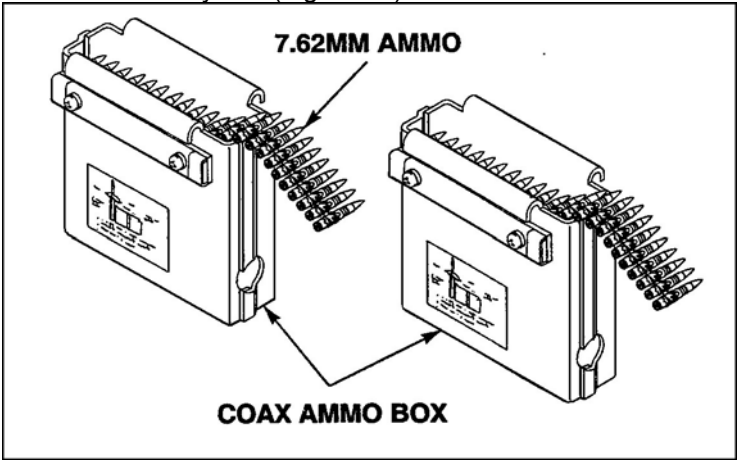

Figure 10. Coax ammunition ready box.
b. Unload the ammunition ready box (Figure 10).